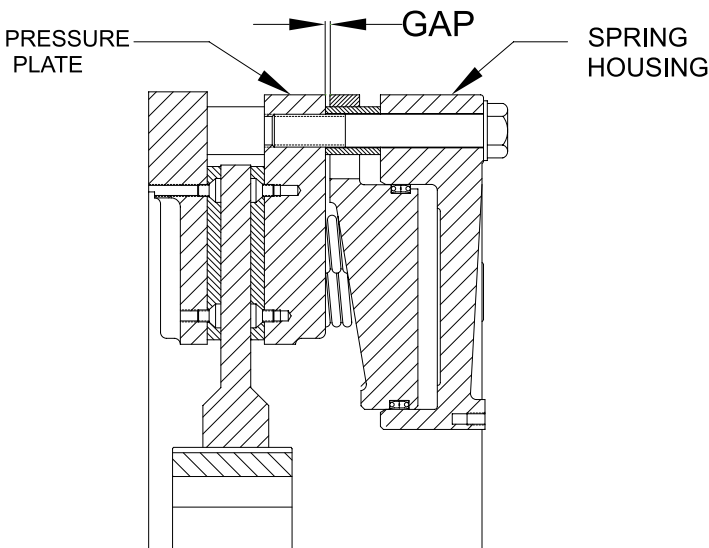

Figure 5
4.2.1 To determine when adjustment is required, make sure the brake is engaged then measure the gap between the spring housing (16) and the pressure plate (14) as shown in Figure 5. Measure the 'Y' gap between the pressure plate (14) and the reaction plate (31), the 'Y' gap between the reaction plate (31) and the mounting flange (2) and the 'Y' gap between the reaction plates (31) as shown in Figure 5, 6, 7, 8 and 9. If the measured gaps meet or be outside (larger or smaller) the limits shown on Table 8 AND none of the friction discs are worn to the bottom of the wear groove or the step on size 50 brakes, adjust the brake. It is also recommended to check the DBBS components for wear as shown in Table 7. If any wear limit has been reached or exceeded, that component must be repaired or replaced.